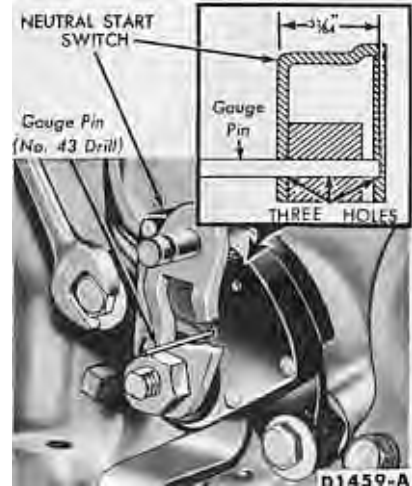

FIG. 15—Neutral Start Switch
1. With the manual lever properly adjusted, loosen the two switch attaching bolts (Fig. 15).
2. With the transmission manual lever in neutral, rotate the switch and insert the gauge pin (No. 43 drill shank end) into the gauge pin holes of the switch. The gauge pin has to be inserted to a full 31/64 inch into the three holes of the switch (Fig. 15).
2. Apply penetrating oil to the outer downshift lever attaching nut. Remove the transmission downshift outer lever attaching nut and lever (Fig. 15).
6. With the transmission manual lever in neutral, rotate the switch and install gauge pin (No. 43 drill) into the gauge pin hole (Fig. 15).